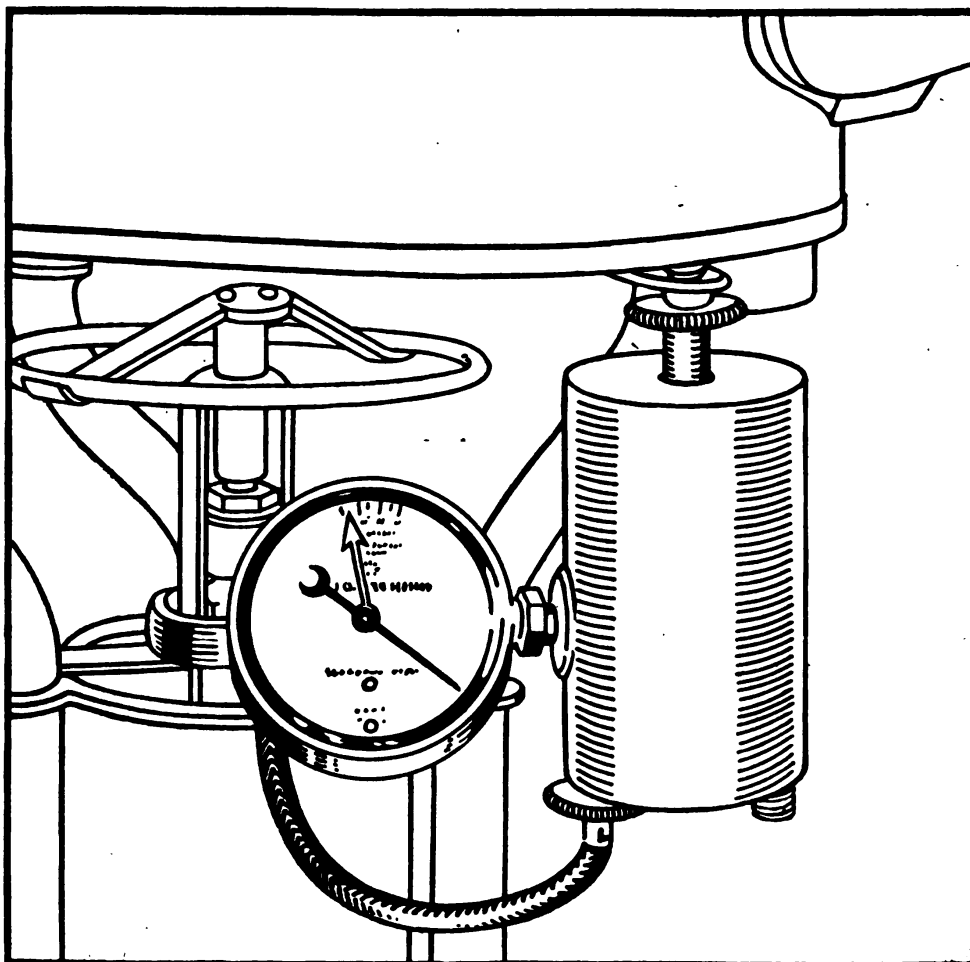

Figure 7. Pressure gauge and measuring chamber connection.
- (4) *To connect pressure gauge and measuring chamber.* (a) Insert the nipple at the top of the measuring chamber into the oxygen inlet on the bottom of the apparatus. (See fig. 7.)